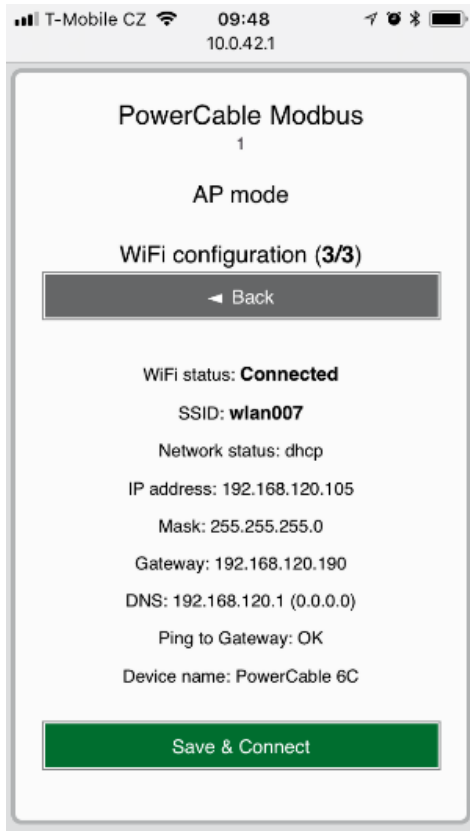
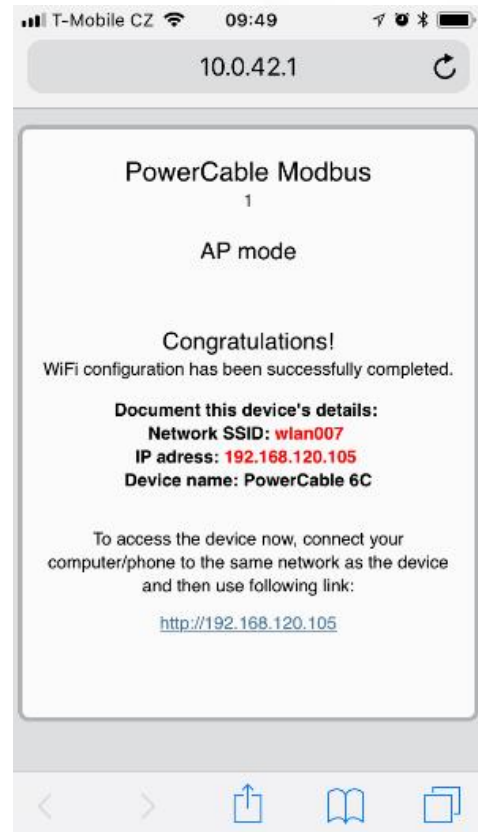

Figure 27 - Configured Wi-Fi parameters
Figure 28 - Network connection info
- A page with the connection result is displayed. If it shows “WiFi status: Connected“, check the network parameters and then click “Save&Connect” to save the configuration (Figure 27). The device then exits the AP mode, connects to the selected WiFi network, and displays a network configuration summary page (Figure 28). WiFi connection is indicated with the yellow LED.